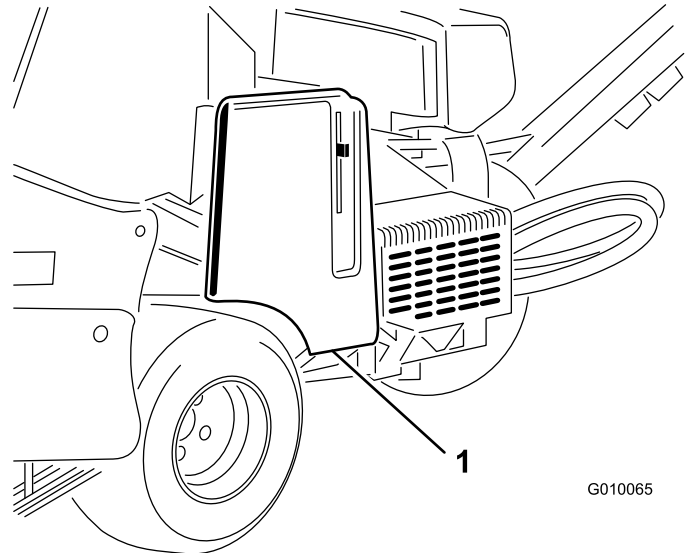

Figure 55
1. Unlatch and remove the belt cover (Figure 55).